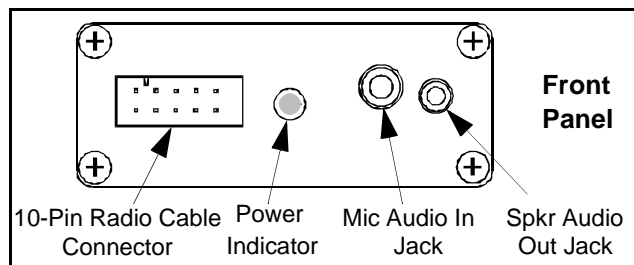

Figure 6-3 RPI Front Panel
3. If the receiver squelch adjustment will be made, connect a SINAD meter to the Speaker Audio Out jack on the RPI (see Figure 6-3). This is a 2.6 mm (3/32”) phone jack.